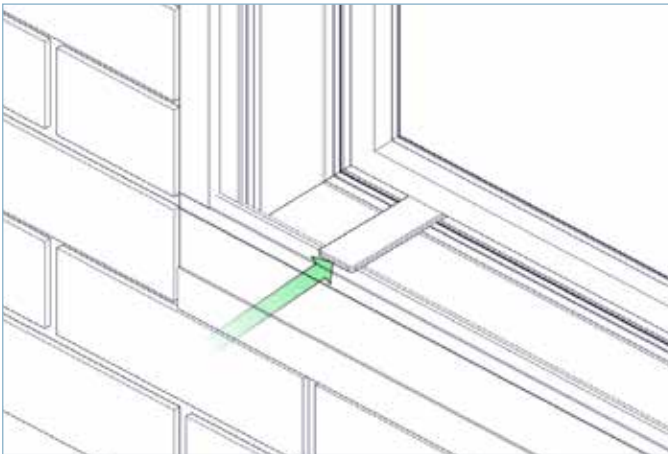

FIG 11A
- ▶ **11.3.** Place 2 no. 4mm packers (32mm wide minimum) in the bottom of the glazing chamber spaced approximately 50mm in from each corner at 90° to the door, as shown in FIG 11A.